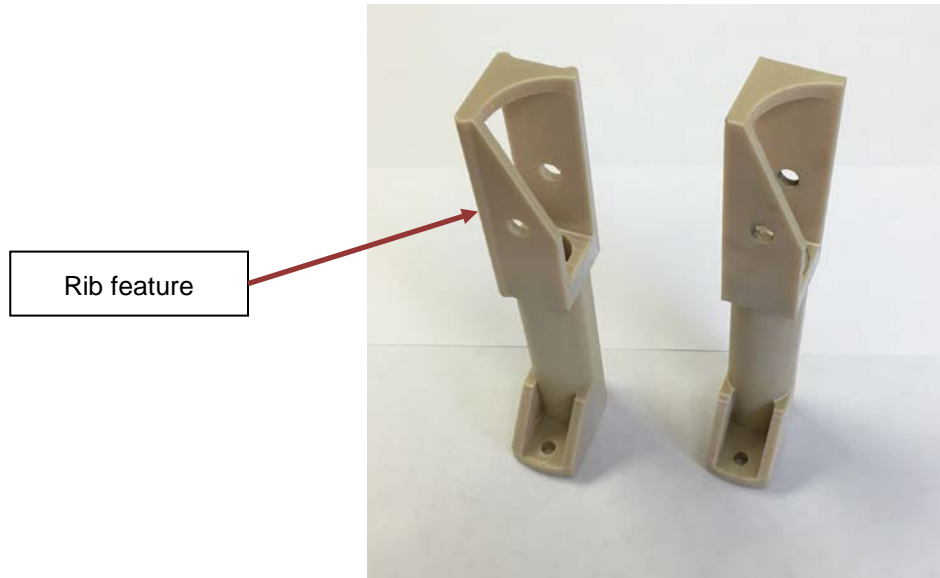

Figure 3 – Ribbed mast on left and non-ribbed mast on right
3. Inspect the single stick mast for the rib features shown in Figure 3 and Figure 4. Masts that do not have the reinforcement rib features are subject to replacement. Masts that have the reinforcement rib features or are black or yellow in color, as shown in Figure 5, are not subject to replacement.